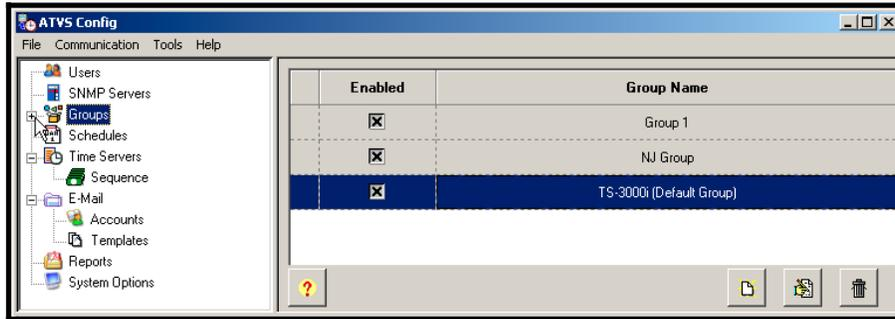
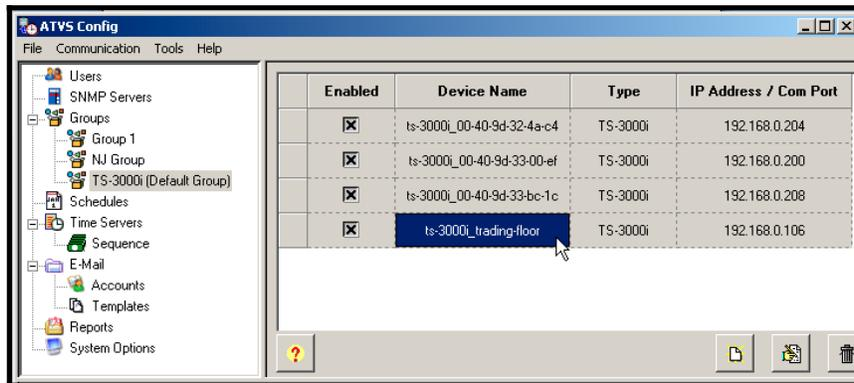

Figure 6-7: ATVS Config Main View
Figure 6-8: Expanded Groups List with TS-3000i Default Group
Step 7. Close the Import Devices window and you will be back to the ATVS Config default main view (see *Figure 6-7*). Click on the Groups icon in the tree view and any created groups will appear in a list on the right. Next, expand the Groups list by clicking in the tree view on the **+**. All previously defined groups will appear in the left-hand tree view (see *Figure 6-8*).
Step 8. Select the **TS-3000i Default Group** from the expanded list by clicking on it in the tree view to display a list of devices in that group on the right-hand side (see *Figure 6-8*).